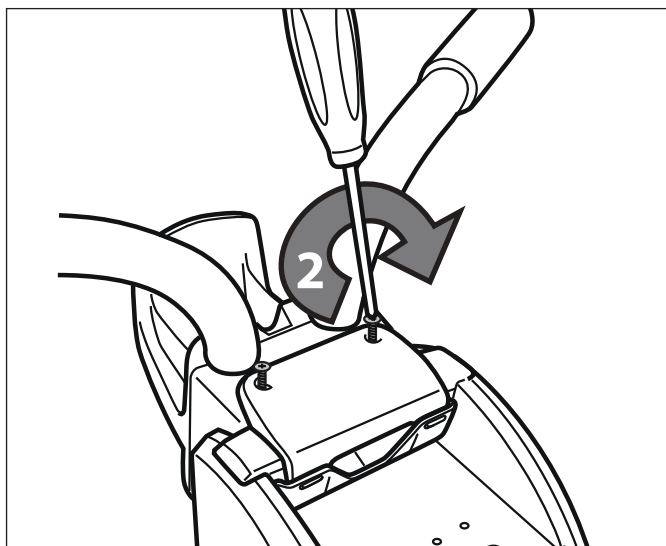

Figure 14. Secure the Locking Plate
3. Secure the locking plate using Phillips head screws. Do not overtighten. Refer to Figure 14.